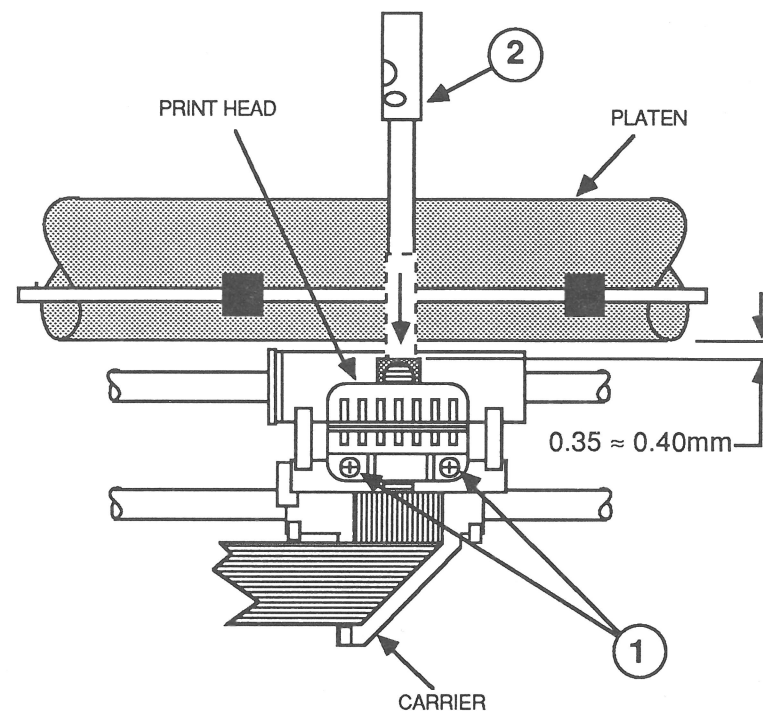

FIGURE 2
7. Loosen the two screws that secure the print head (Figure 2, #1).
8. Adjust the gap by moving the print head forward or backward so that a thickness gauge of 0.35 mm (Figure 2, #2) can be inserted between the print head and platen, and a 0.4 mm gauge cannot.